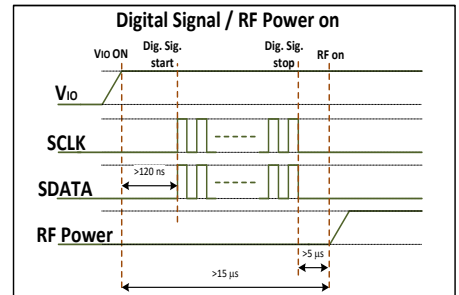

Figure 2 Digital Signal / RF Power-On Detail
2. VIO must be applied for a minimum of 120 ns before sending SDATA/SCLK to ensure correct data transmission. (see fig 2)
3. VIO must be applied for a minimum of 15  $\mu$ s before applying RF power. (see figure 2)
4. Wait a minimum of 5  $\mu$ s after RFFE bus is idle to apply an RF signal. (see figure 2)